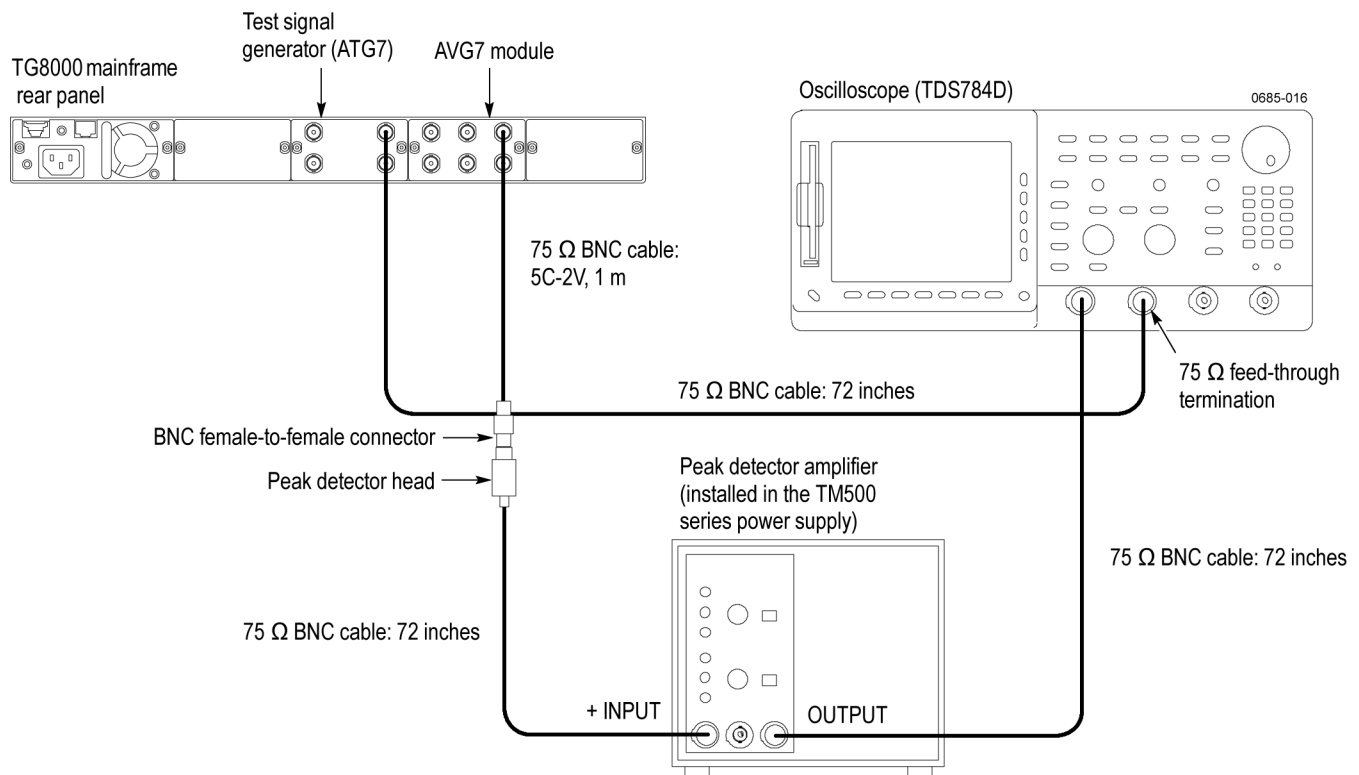

Figure 16: Setup for frequency response test
1. Use the two 75 Ω BNC cables, peak detector head, and BNC female-to-female connector to connect the upper CH 1 connector on the AVG7 Generator module to the +INPUT connector on the peak detector amplifier as shown in the following figure. (See Figure 16.)
2. Use the 75 Ω BNC cable to connect the OUTPUT connector on the peak detector amplifier to the CH 1 input connector on the oscilloscope as shown in the following figure. (See Figure 16.)